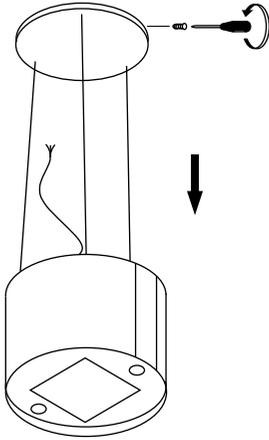

Fig 13
11. Unscrew the ceiling cover and pull down (Fig 13).